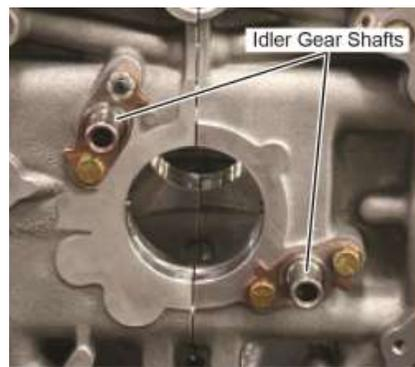

Figure 18
- (2) Remove the nut and three bolts (Figure 18) that attach the crankshaft idler gear shafts to the crankcase halves.
- (3) Remove the two crankshaft idler gear shafts from the rear of the crankcase halves (Figure 18).